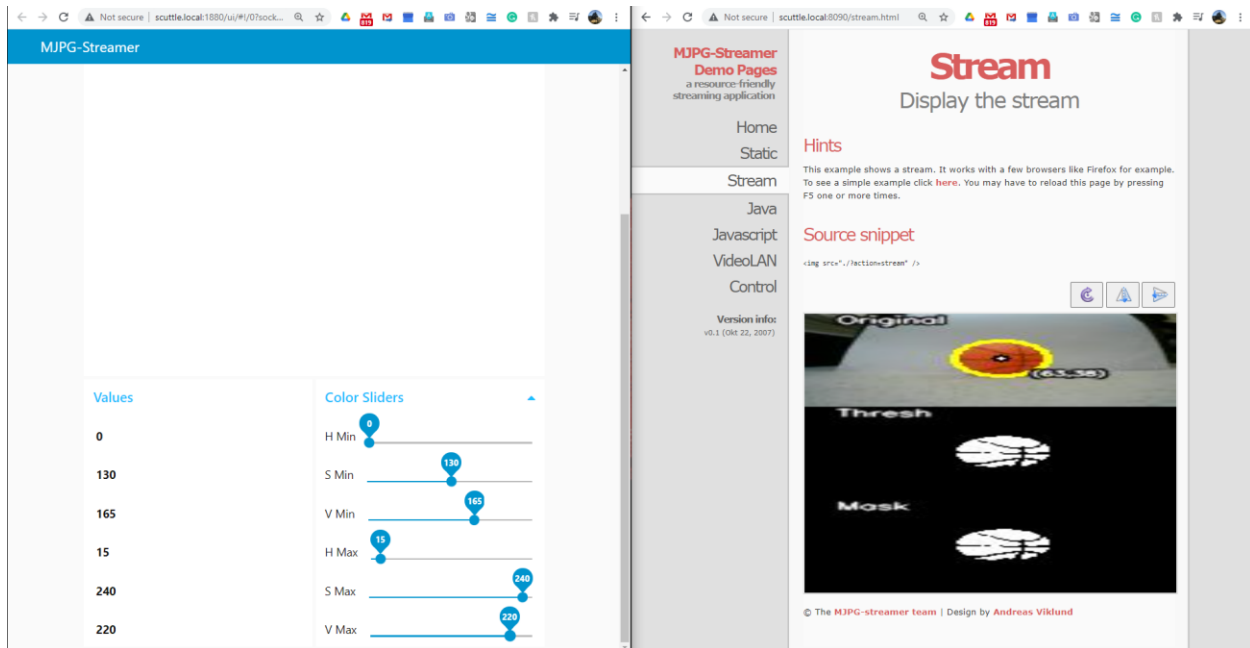

Figure 22
4. When you are done you should have a result similar to Figure 22 below where the object is the only white part of the threshold and mask windows.